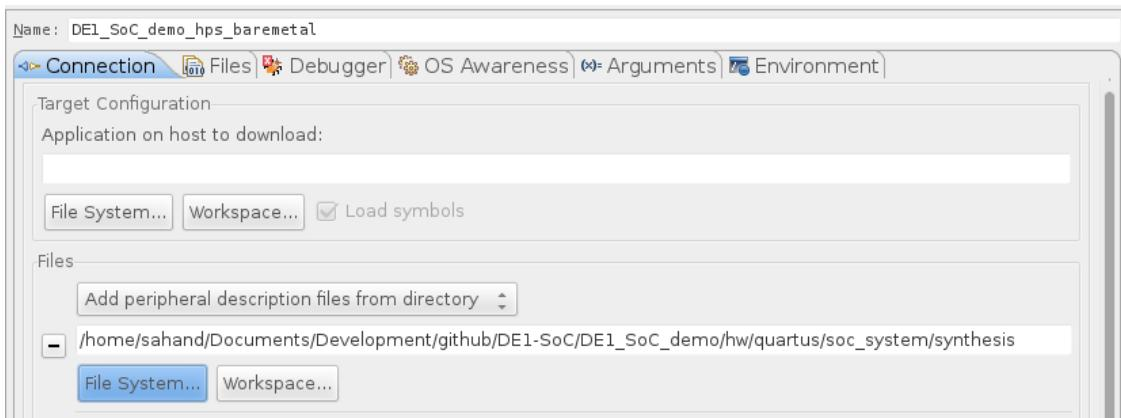

Figure 12-6. Debug Configuration "Files" Tab
- b. In 9.3.2, we configured our HPS to use some FPGA peripherals. We can instruct the debugger about this so it can show more detailed information when debugging. To do this, set the combobox to “Add peripheral description files from directory” and set it to the “DE1_SoC_demo/hw/quartus/soc_system/synthesis” directory, as shown in Figure 12-6.